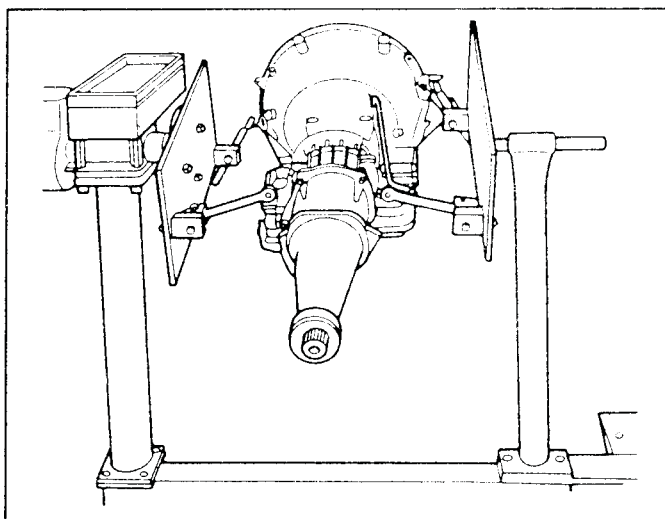

FIG. 16 Transmission Mounted in Holding Fixture
1. Remove the converter, and mount the transmission in holding fixture Rotunda Model 014-00106 or equivalent, (Fig. 16).